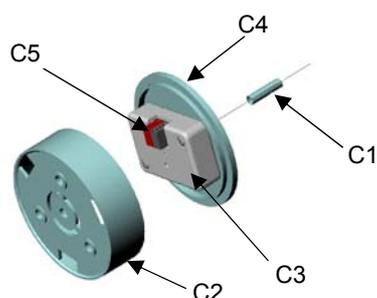

Figure 3: Mounting the AP 255/12
Mounting and dismantling the AP 255/12: (see figure 3)
- The system is supplied with a surface-mounting housing \varnothing 75 mm, height 27 mm, cover with bayonet connection (see figure 3).